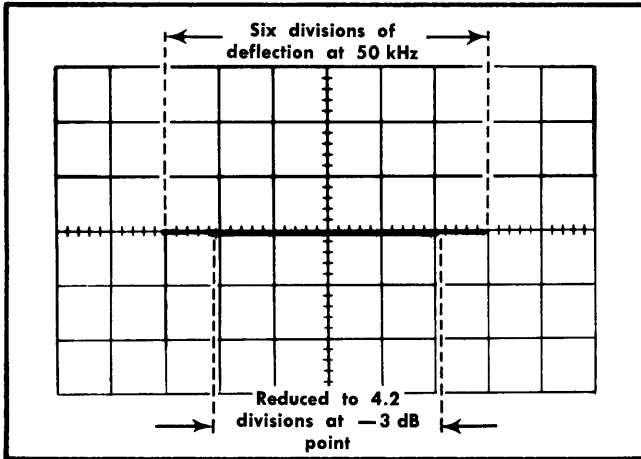

Fig. 5-43. Typical CRT display when checking external horizontal bandwidth (double exposure).
c. Without changing the output amplitude, increase the output frequency of the generator until the horizontal deflection is reduced to 4.3 divisions (-3 dB point; see Fig. 5-43).